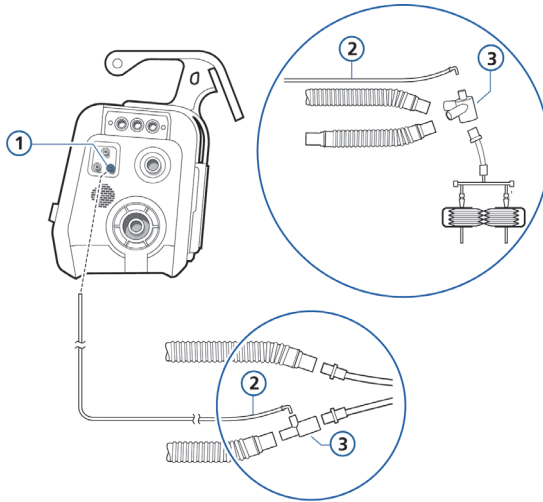

Figure 5-10. Connecting the pressure-monitoring line
1. Using an adapter, connect the pressure-monitoring line to the small inlet at the top of the T- or Y-piece, whichever is used. See Figure 5-10.